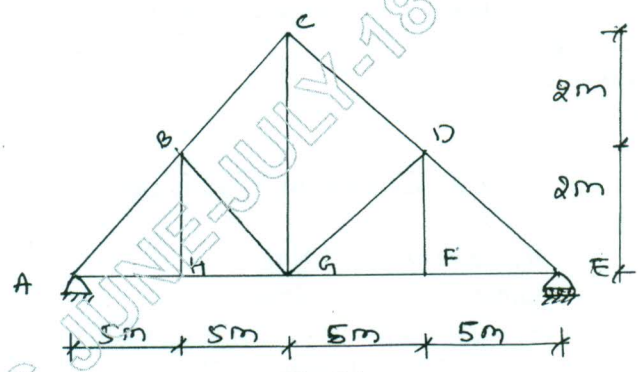

Fig.Q4
- 4 The centre line of a roof truss is as shown in the Fig.Q4. The magnitude and nature of forces under service conditions are